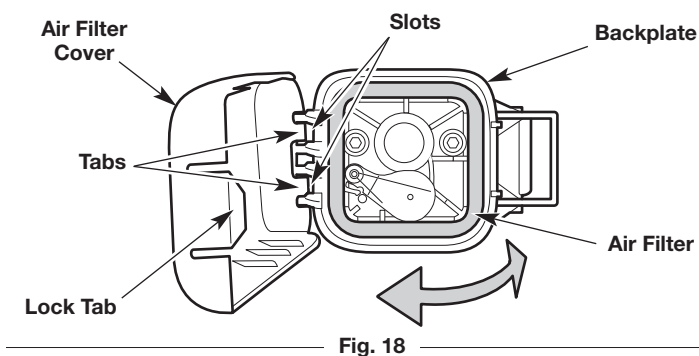

Fig. 18
1. Open the air filter cover: press in the lock tab and swing the air filter cover to the left (Fig. 18).
2. Remove the air filter (Fig. 18).
6. Reinstall the air filter (Fig. 18).
7. Close the air filter cover: insert the tabs on the air filter cover into the slots on the backplate. Swing the air filter cover to the right and press it closed until the lock tab snaps into place (Fig. 18).